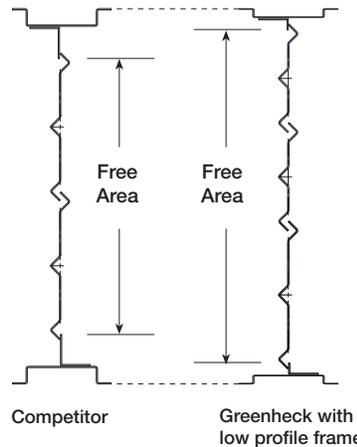

Figure 1
Figure 1 and 2 depict a CFD analysis conducted showing CO concentration levels with and without jet fans running respectively. These figures illustrate how the simple installation of GreenJet fans maintain the CO levels below harmful concentration. Once the CO levels are deemed acceptable, additional simulations are performed to ensure other criteria are acceptable.
- Increases free area which reduces pressure drop creating lower operating costs (Figures 1 and 2)